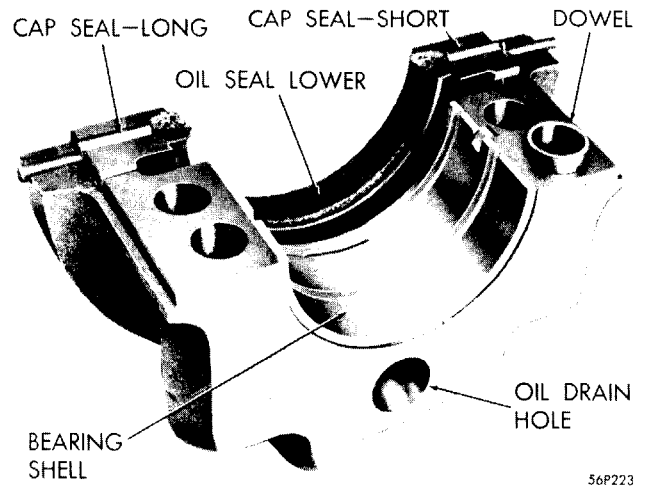

Fig. 14—Rear Main Bearing Cap and Seals
(2) Install upper half of all main bearings with tangs of bearings in grooves in block and lubricate the bearings.
(3) Position crankshaft in the block.
(4) Smooth the edges of a $\frac{1}{2}$ x $\frac{3}{4}$ inch piece of soft copper or brass shim stock, .001 inch thickness.
(5) Lubricate the main bearing journals and position the shim stock across the center main journal.
(6) Install bearing in center main bearing cap, bearing tang in groove in cap, lubricate bearing and seat cap on block. Tighten bolts to 85 foot-pounds torque.
(7) If a slight drag is felt as the crankshaft is turned (moved no more than $\frac{1}{4}$ turn in either direction), the clearance is .001 inch or less and is considered satisfactory. If, however, no drag is felt, or the crankshaft cannot be rotated, the bearing is either too large or too small and should be replaced with the correct size.
(8) Check crankshaft end play to .002-.007 inch. If end play is less than .002" or more than .007", install a new Number 3 main bearing.
(9) Fit the remaining bearings in same manner.
(10) Install new rear main bearing oil seal in the cap with Tool C-3511.
(11) Hold seal in place with tool and trim ends of seal flush with cap.
(12) Install bearing shell and cap seals (Fig. 14).